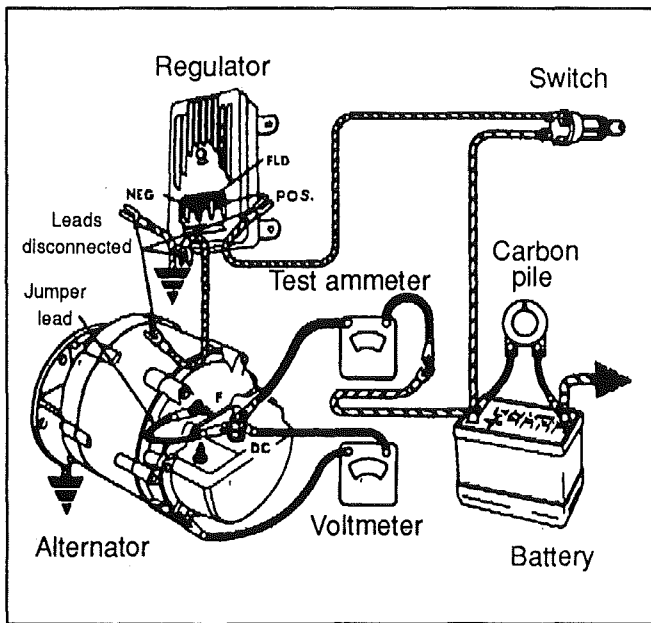

FIG. 31
6. See the figure 31 for the wiring connections.